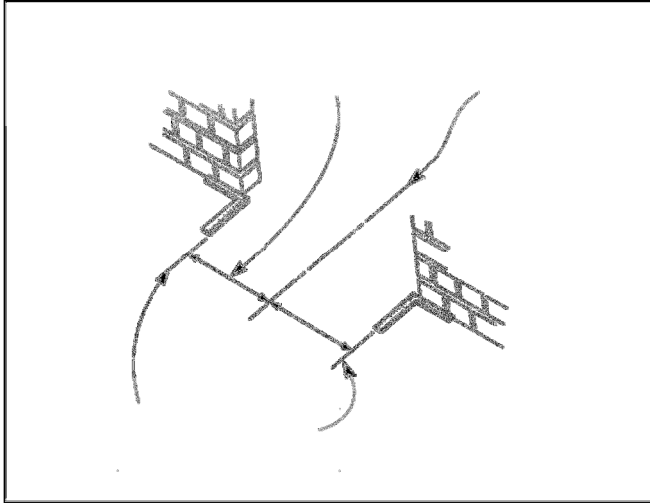

Fig. 3
2. Using the centerline as a reference point, lay out and mark half of the door's production width along the floor. (See Figure 3)